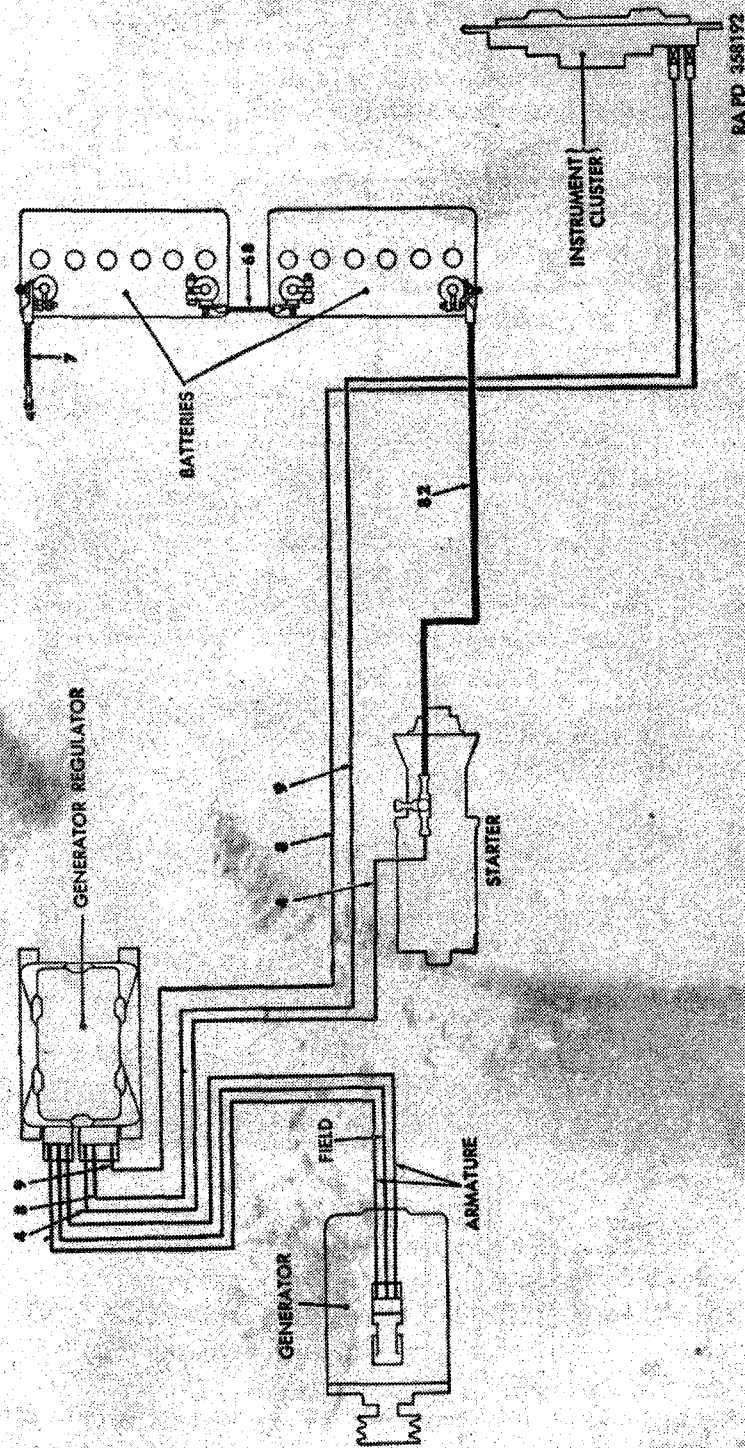
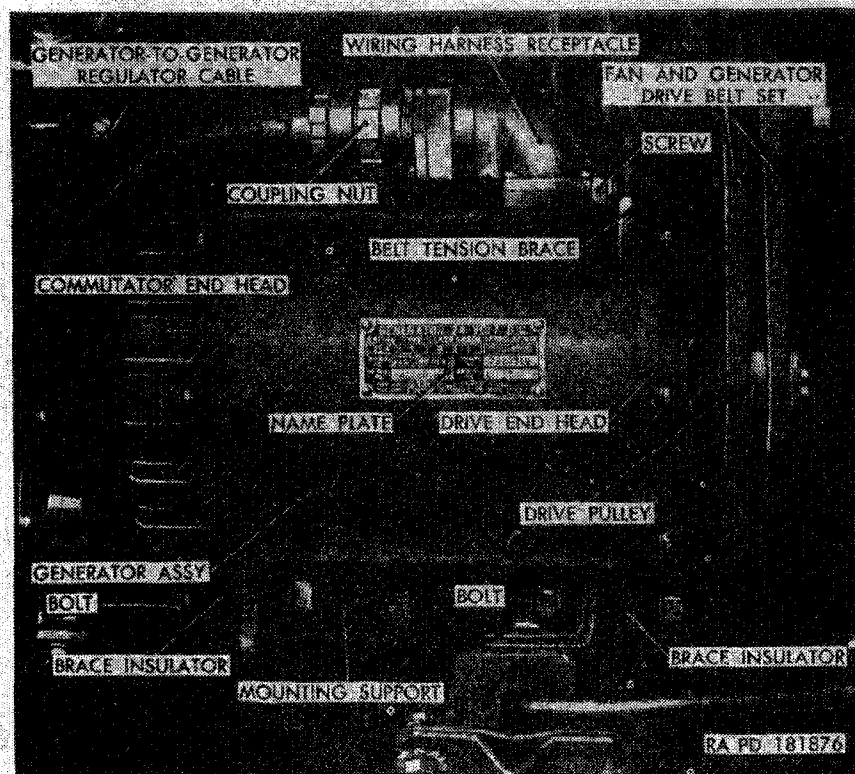
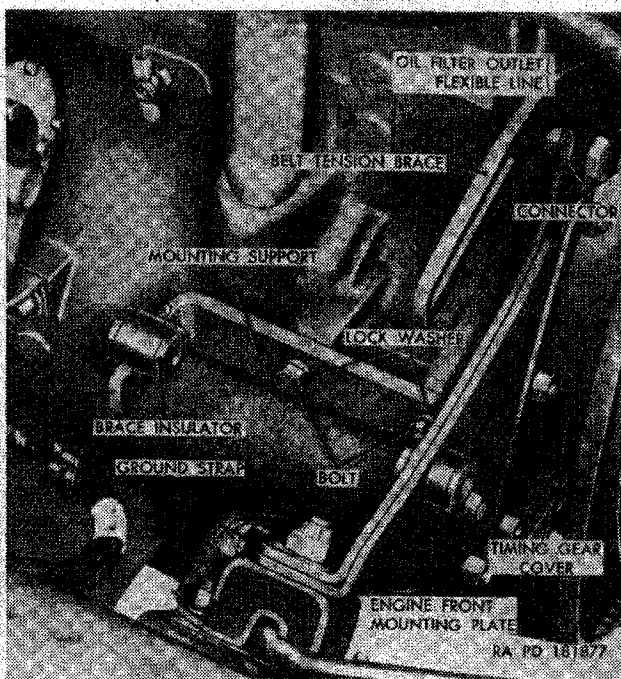
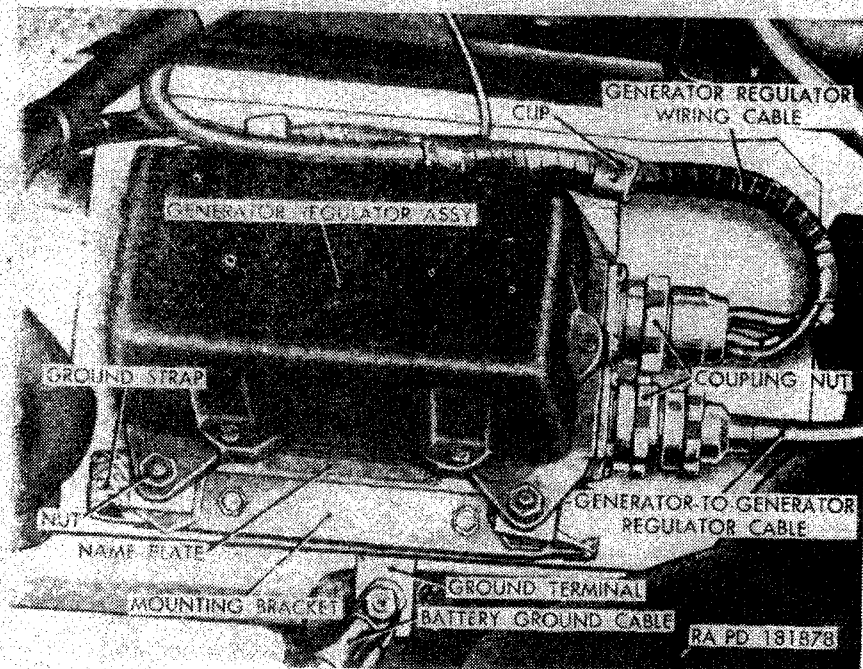

Figure 88. Generating system components and cables identification (M38A1).
Figure 90. Generator assembly—installed.
Figure 91. Generator mounting support—installed.
Figure 92. Generator regulator assembly installed (M38A1).
a. Description. The 24-volt, single-wire, waterproof generating system (figs. 88 and 89) consists of the generator and generator regulator assemblies, connecting cables, and batteries. Refer to paragraph 162 for information relative to the batteries. The system functions to keep the batteries fully charged. A two-brush, 25 ampere, 24-volt generator (fig. 90), mounted on the right side of the engine, is driven in conjunction with the water pump by a matched pair of V-belts from the engine crankshaft. A belt tension brace provides for drive belt adjustment. The generator regulator (figs. 92 and 94) assembly consists of three units; the voltage regulator, which controls the generator output voltage to prevent overcharging the batteries; the current regulator, which prevents overloading the generator; and the circuit breaker, which opens to prevent discharging the batteries when the generator output falls below the level required to charge the batteries.
- (2) Unscrew the coupling nut securing the generator-to-generator regulator cable (fig. 90) to the wiring harness receptacle. Pull the cable plug from the receptacle.
- (3) Remove the lockwasher screw and lockwasher securing the belt tension brace to the drive end head. Swing the generator toward the engine as far as it will go, and remove the two fan and generator drive belts from the drive pulley. If the belt tension brace is to be removed, remove the bolt, nut, and lockwasher securing the brace inner end to the engine front mounting plate, and remove the brace.
- (8) Inspect the two brace insulators (fig. 91) for damaged or deteriorated condition. One insulator is mounted in the mounting support, while the other is mounted in the engine front mounting plate. If the insulators are damaged, remove them.
- (9) Remove the two bolts and lockwashers securing the mounting support to the cylinder block and remove the support.
- (1) Place the mounting support (fig. 91) in position on the right side of the cylinder block. Secure the support to the block with two $\frac{3}{8}$ -inch lockwashers and $\frac{3}{8}$ x $\frac{7}{8}$ bolts.
- (2) Install the brace insulators if removed, one in the mounting support and one in the engine front mounting plate.
- (3) Install the $\frac{1}{8} \times \frac{7}{8}$ woodruff key in the generator armature shaft keyway. Aline the keyway in the drive pulley (fig. 90) bore with the key in the shaft and install the pulley (long end of hub leading) on the shaft. Shove the pulley onto the shaft until the pulley inner end rests against the shaft shoulder. Install one $\frac{1}{2}$ -inch lockwasher on shaft against pulley outer end and secure pulley to shaft with one $\frac{1}{2}$ -inch castellated nut. Tighten nut as much as possible and then aline shaft cotter pin hole with nut serrations. Lock the nut to the shaft with a new $\frac{3}{32} \times 1$ cotter pin. Bend the cotter pin ends over.
- (4) If the belt tension brace was removed, secure it to the engine front mounting plate with a $\frac{3}{8} \times \frac{7}{8}$ bolt, $\frac{3}{8}$ -inch lockwasher, and $\frac{3}{8}$ -inch nut. Position brace so its curved end faces down.
- (5) Lower the generator assembly into the engine compartment and position its commutator and drive end heads on the brace insulators, mounted in the mounting support and engine front mounting plate.
- (6) Start one $\frac{7}{16} \times 2\frac{1}{4}$ bolt with $1\frac{1}{32}$ -inch ID flat washer through the mounting support brace insulator. Place one $1\frac{5}{32}$ -inch ID flat washer between the generator insulator and commutator end head. Push the bolt through the flat washer and commutator end head. Place one $\frac{7}{16}$ -inch external-teeth lockwasher over the bolt end and install the $\frac{7}{16}$ -inch nut, but do not tighten.
- (7) Start one $\frac{7}{16} \times 2\frac{1}{4}$ bolt with $1\frac{1}{32}$ -inch ID flat washer through the engine front mounting plate brace insulator. Place one $1\frac{3}{32}$ -inch ID flat washer between the generator insulator and drive end head, and push the bolt through the washer and drive end head. Place one $\frac{7}{16}$ -inch external-teeth lockwasher over the bolt end and install a $\frac{7}{16}$ -inch nut, but do not tighten.
- (8) Position the fan and generator drive belts over the drive pulley and pull the generator away from the engine until belts are snug in place in all pulleys. Place the $\frac{3}{8}$ -inch flat washer over the $\frac{3}{8} \times 1$ lockwasher screw and insert screw through the belt tension brace slot and into the generator drive end head. Start screw into drive end head threads, but do not tighten.
- (9) Adjust belt tension (par. 130a).
- (10) Tighten the nuts and bolts securing the generator to the mounting support and engine front mounting plate.
- (11) Insert the generator-to-generator regulator cable plug into the wiring harness receptacle, making sure to aline the plug
- (1) Disconnect the ground cable of battery "B" (par 162b(8)(a) and (b)).
- (2) Using a spanner wrench, unscrew the coupling nut of the generator-to-generator regulator cable (fig. 92) and pull the cable plug out of the receptacle.
- (3) Using a spanner wrench, unscrew the generator regulator wiring cable coupling nut and pull the cable plug out of the receptacle.
- (4) Remove the four plain nuts and lockwashers securing the generator regulator assembly to the mounting bracket cush-